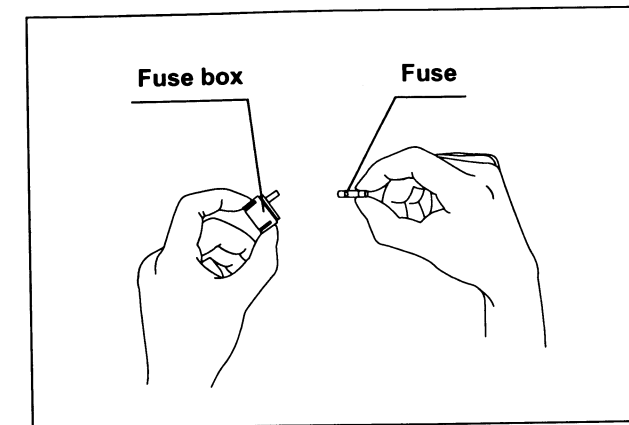

Figure 5.11
3. Replace both fuses (see Figure 5.11).